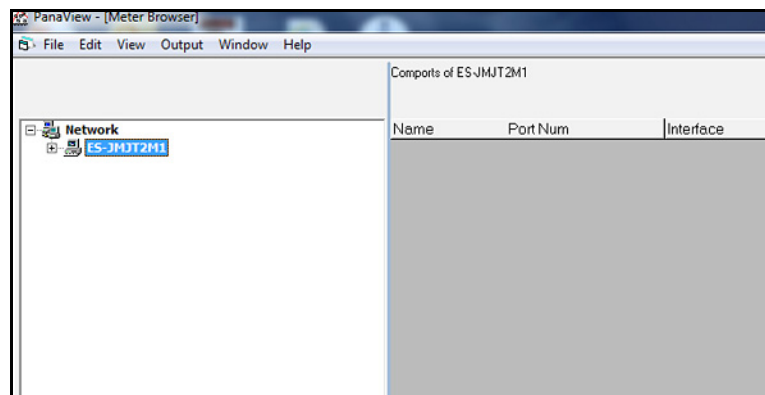

Figure 29: My Computer Branch
1. Expand the network branch by clicking on the “+” sign to its left. Then, highlight the My Computer (Name) branch and the Meter Browser window will look like Figure 29 below.
Note: The right pane in Figure 29 above lists all of the communication ports, along with their configuration parameters, that are currently assigned to the named computer. If this is the initial meter setup, the list is empty.
- Open the “*New Meter Browser*” window and expand the network tree as shown in *Figure 29* on page 28. Then, click and highlight the *My Computer (Name)* branch.